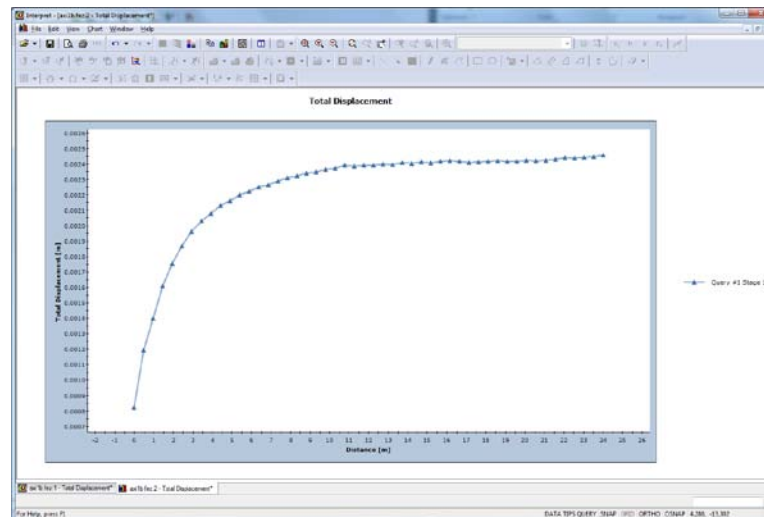

Figure 6-6: Total displacement along length of tunnel.
3. You should see the graph in Figure 6-6. Since we were viewing the Total Displacement contours, we obtained a graph of total displacement vs. distance along the query. The data graphed always corresponds to the contoured data being viewed.